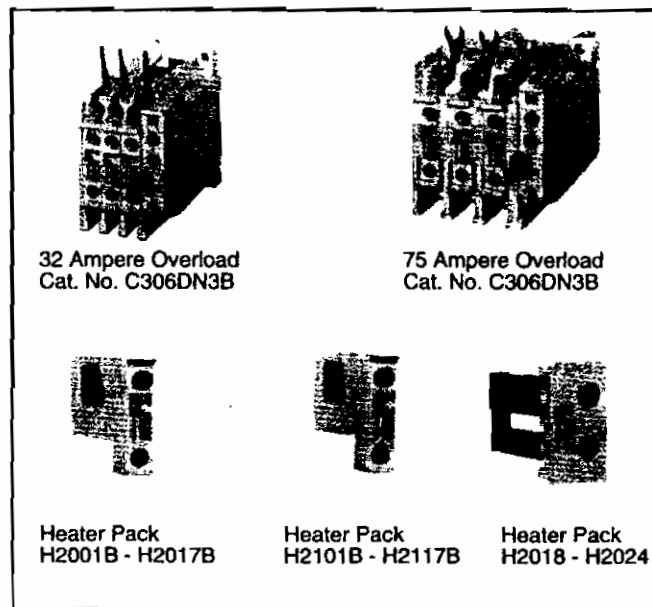

Fig. 24 C306 Thermal Overload Relay and Heater Pack.
C306 THERMAL OVERLOAD RELAYS (Fig. 24)
- Class 10 or 20 heater packs. (Fig. 24) Use Class 10 heaters with fusible or thermal magnetic breaker disconnects only.